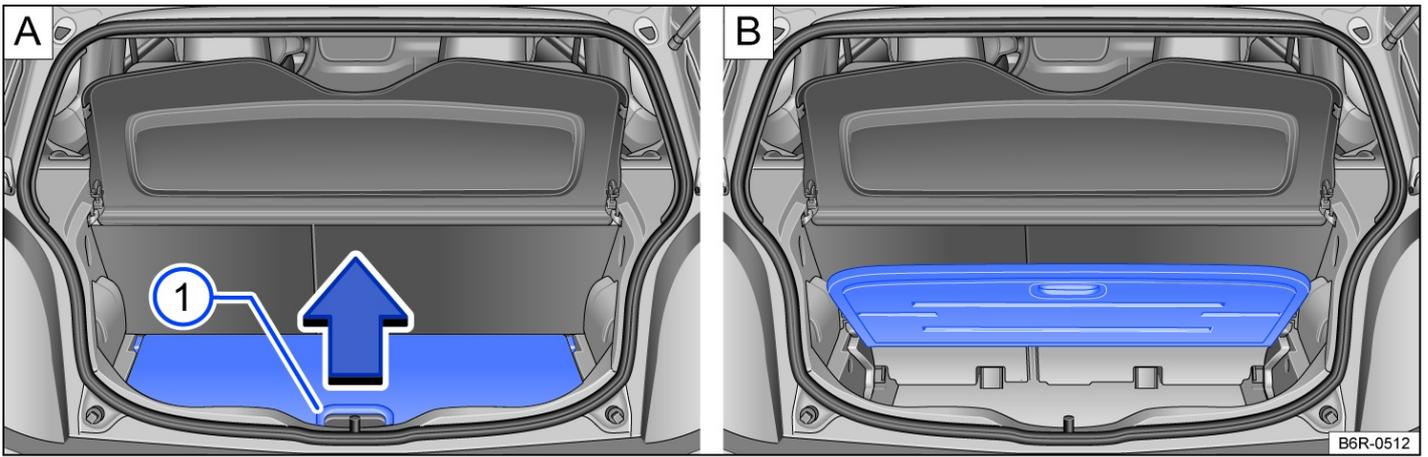

Fig. 1 In the luggage compartment: **A** opening the variable luggage compartment floor. **B** variable luggage compartment floor folded up.
— Lift the handle → Fig. 1 **A** ① in the direction of the arrow and lift the luggage compartment floor up fully → Fig. 1 **B**.